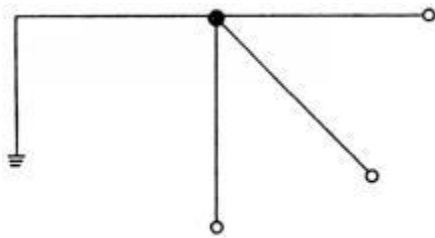
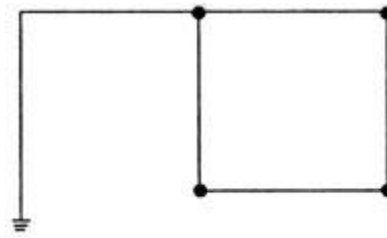

Fig. 20a
Fig. 20b
(1) A filter control power supply (such as LB-5) with voltage regulator, isolation transformer and filter is adopted. The primary winding of the isolation transformer is shielded to the ground of the power grid system; the secondary winding is shielded to the ground of the test circuit (or the ground of the fully shielded system).
(2) Set up shielding room. Only the test circuit part can be shielded, while the high voltage transformer is outside, and the high voltage is introduced by bushing (but filter must be used). High voltage power supply can also be placed in the shielding room, while the partial discharge detector is outside. It is better to put the detector in the shielding room. The purpose and function of shielding room is to prevent capacitive coupling and inductive coupling. For the design of shielding room, please refer to relevant information.
(3) For reliable single point grounding, the test loop system or the whole shield body shall be designed as single point grounding structure, and the grounding resistance shall be small. The grounding point shall be separated from the ground grid and power grid neutral line of general laboratory. As shown in Fig. 20a, it is a single point grounding, while the grounding mode in Fig. 20b is easy to form loop ground current and cause interference.